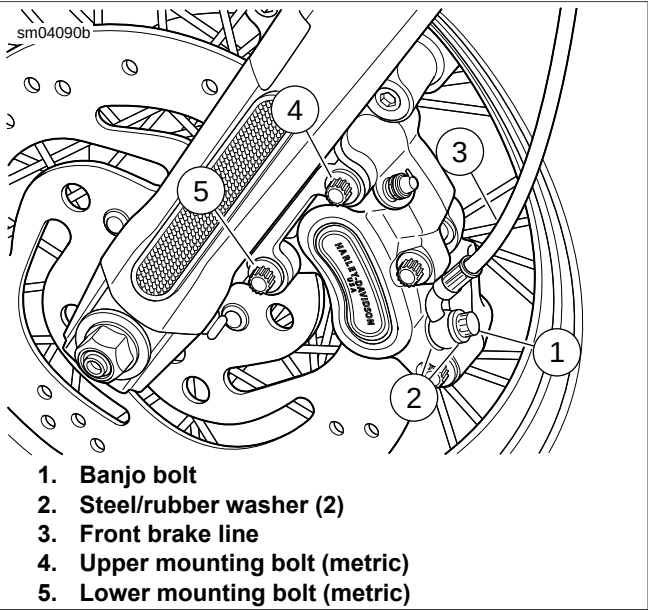

Figure 2-55. Front Caliper
- See Figure 2-55. Attach caliper to fork leg.